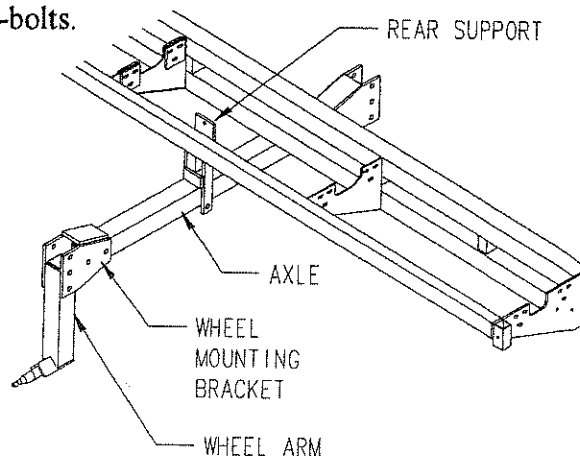

FIGURE 25
3. Go to the rear of the drill and install the rear support (Figure 25) by placing the legs of the bracket on each side of the axle and under the 2" X 3" rear bar of the drills. Fasten the bracket to the 2" X 3" rear bar of the drill with the 7/16" X 3" U-bolts 3" long. Fasten the bracket to the axle with the 3/4" X 5 1/2" bolt through the legs of the bracket and under the axle.
4. Install the stabilizer cross bar (1/2" X 4" plate-10" long with 4 holes) behind the bracket and fasten through the holes in the bracket with 1/2" X 1 1/2" bolts (Figure 25).
6. Install the wheel mounting bracket to the end of the axle and fasten with two 3/4" X 5 1/2" bolts (Figure 25).
10. Install the wheel arms to the axle by inserting the 3/4" X 5 1/2" bolt through the center hole of the wheel mounting bracket and through the top hole of the wheel arm (Figure 25).